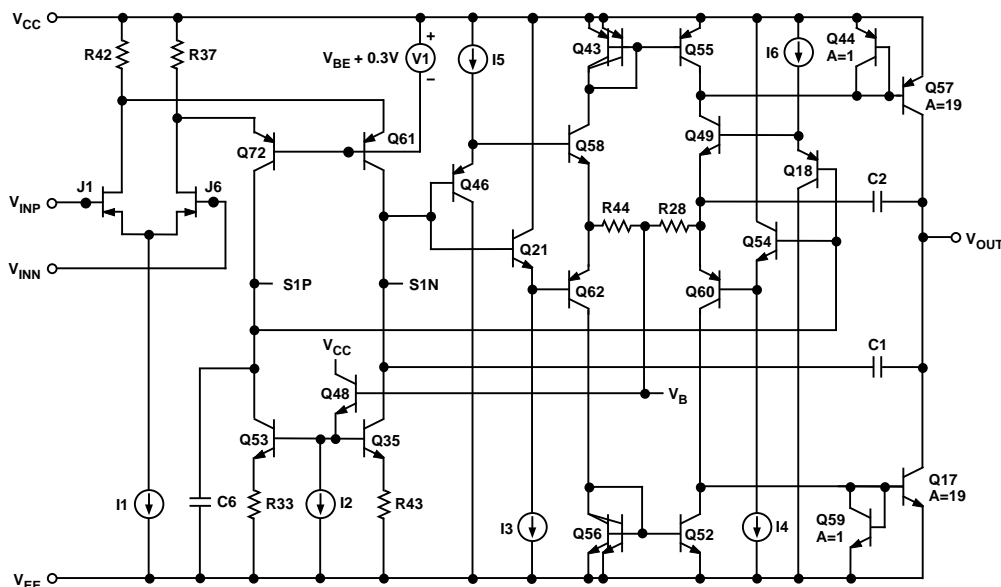

Figure 35. Simplified Schematic
This AD823 is fabricated on Analog Devices' proprietary complementary bipolar (CB) process that enables the construction of pnp and npn transistors with similar  $f_T$ s in the 600 MHz to 800 MHz region. In addition, the process also features N-channel JFETs, which are used in the input stage of the AD823. These process features allow the construction of high frequency, low distortion op amps with picoampere input currents. This design uses a differential-output input stage to maximize bandwidth and headroom (see Figure 35). The smaller signal swings required on the S1P, S1N outputs reduce the effect of nonlinear currents due to junction capacitances and improve the distortion performance. With this design harmonic distortion of better than  $-91\text{ dB @ }20\text{ kHz}$  into  $600\ \Omega$  with  $V_{OUT} = 4\text{ V p-p}$  on a single 5 volt supply is achieved. The complementary common-emitter design of the output stage provides excellent load drive without the need for emitter followers, thereby improving the output range of the device considerably with respect to conventional op amps. The AD823 can drive 20 mA with the outputs within 0.6 V of the supply rails. The AD823 also offers outstanding precision for a high speed op amp. Input offset voltages